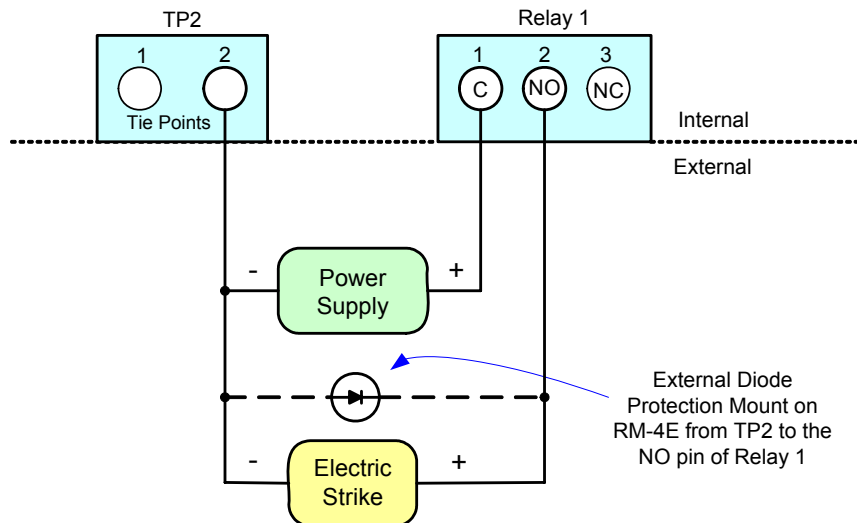

Figure 4.12: RM-4E Electric Strike Wiring – Relay 1 (Fail-Secure Wiring)
In the example in Figure 4.12, a fail-secure door is shown with the normally open (NO) contact. You can add an optional external suppression diode, if desired.